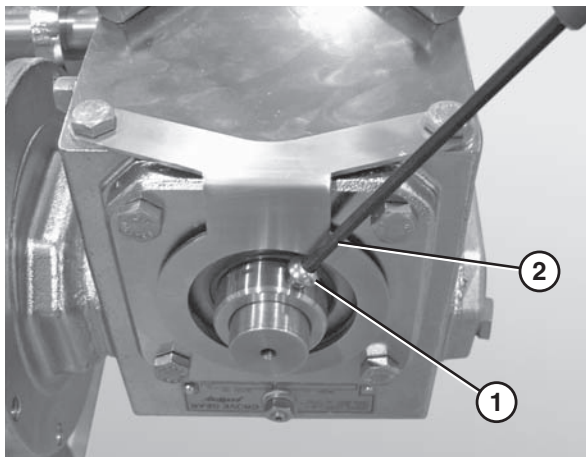

Figure 21
5. Tighten the drive spindle fasteners (**Figure 21, item 1**) located on the inside and outside of the gearmotor using a hex wrench (**Figure 21, item 2**).